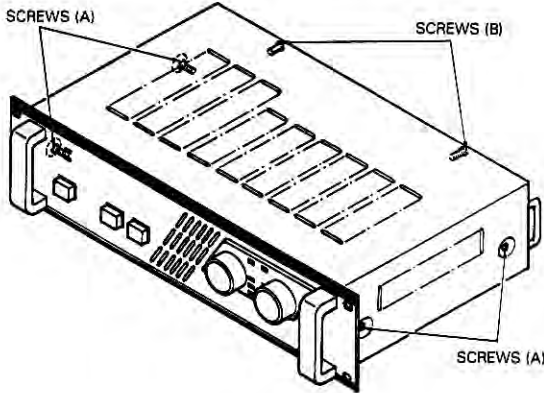

Fig. 1
- (a) Remove 4 screws (A). (Fig.1)
- (b) Remove 2 screws (B). (Fig.1)